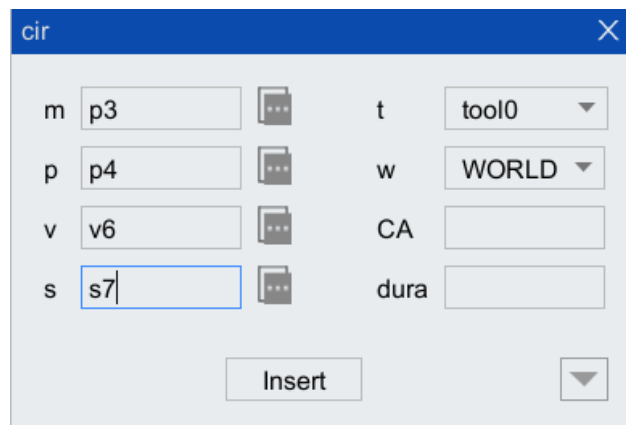

Figure 9-14 The cir instruction configuration interface
Step8. Click [Insert cmd/motion control/cir] to pop up the cir instruction configuration interface (as shown in Figure 9-14), complete the configuration of parameters p3, p4, v6, s7, and configure t to be tool0, w to be \$WORLD, click <Insert>. The generated code is shown in Figure 9-15.